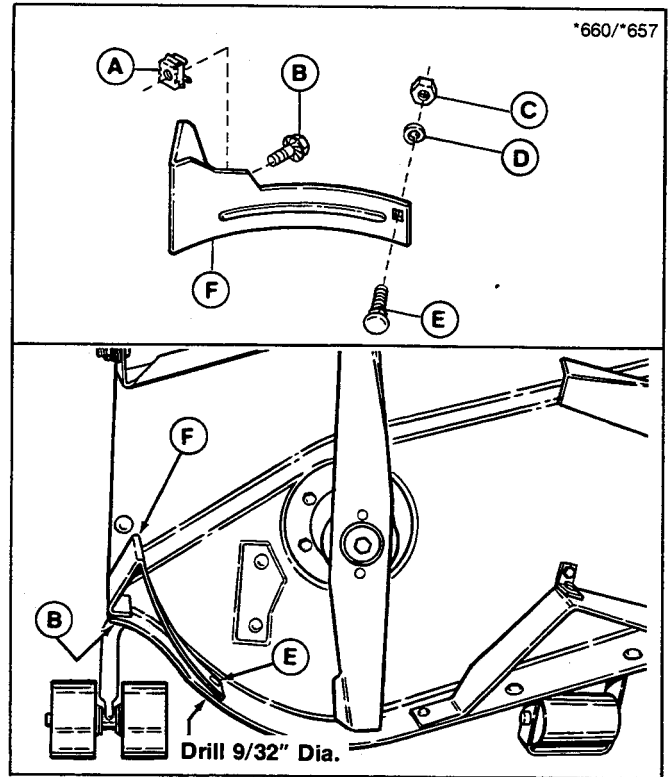

Figure 3.
4. Make sure the retainer nut (A, figure 3) is in the baffle.
5. Install the baffle into deck with the whizlock screw (B). If the second hole must be drilled, position the baffle parallel with bottom edge of mower deck. Also turn blade to make sure there is no interference. Mark the spot and drill a 9/32" hole as shown below.
6. Install the carriage bolt (E), lockwasher and nut.